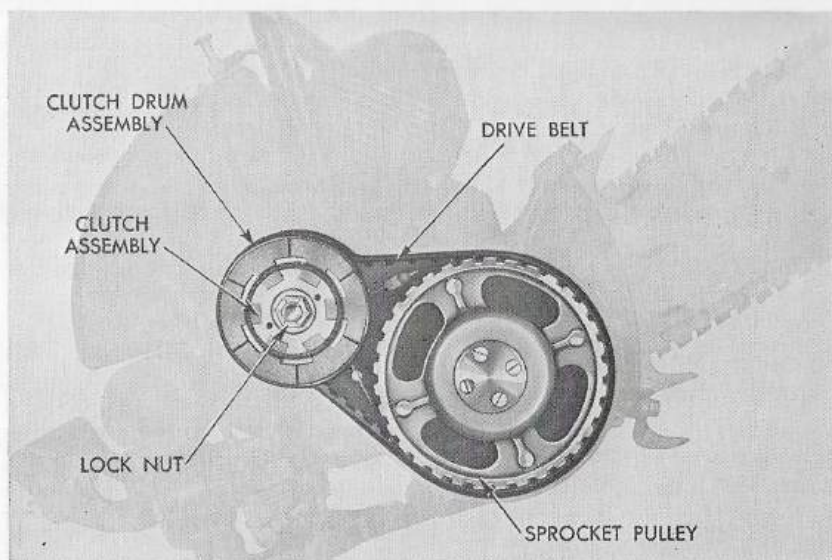

Figure 13—Drive Case Assembly
10. DRIVE CASE ASSEMBLY (See Figure 13)